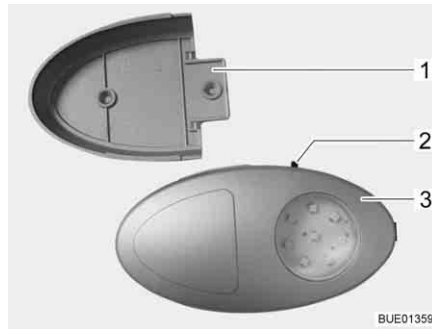

Fig. 83 Wardrobe light
- ▷ The wardrobe light can be removed from its holder (Fig. 83,1) and used as a torch.
The On/Off switch (Fig. 83,2) is located directly on the wardrobe light (Fig. 83,3).